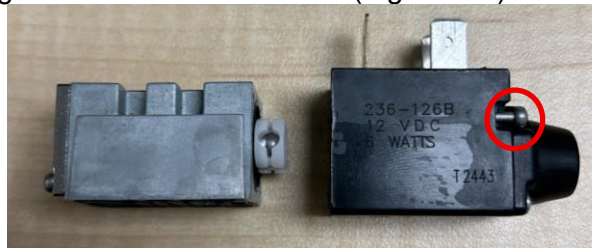

Figure 5-7: Solenoid Housing
10. Reattach the housing using the two flat head screws. (Figure 5-7)